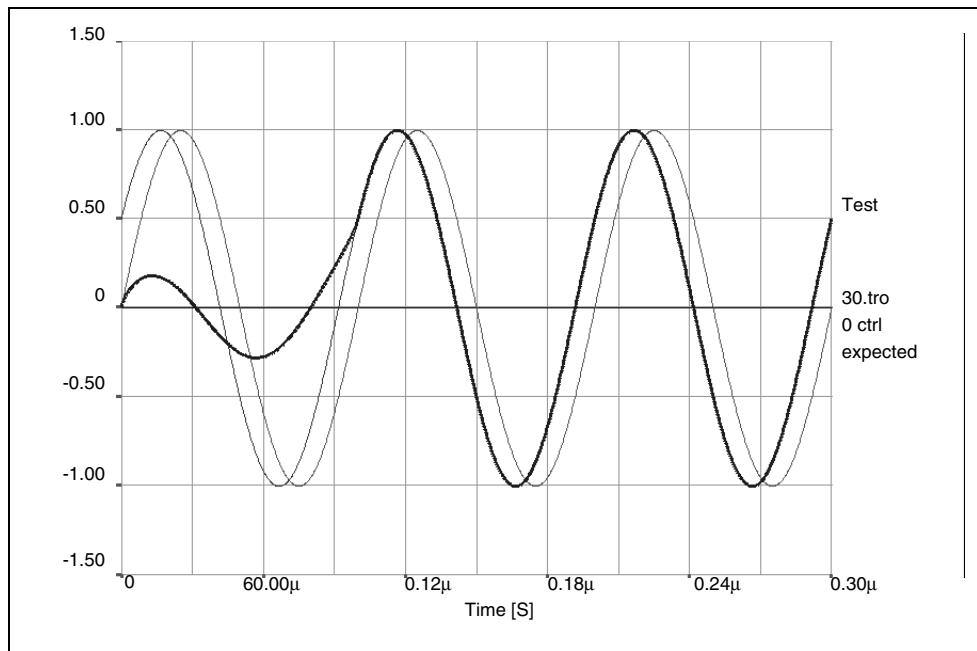

Figure 232 Transient Response of the 30 Degree Phase Shift Filter
- HSPICE or HSPICE RF performs circular convolution, when G-element `ACCURACY = 0` or `1` (see Figure 232 on page 1007).